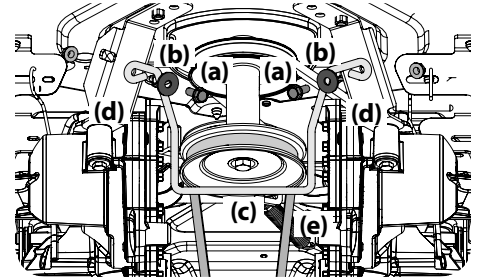
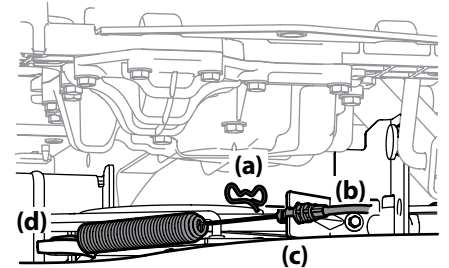

Figure 4-10
Figure 4-11
3. Remove the hex washer screw (a), flat washer (b) securing the belt keeper rod (c) to the transmission mount brackets (d) and remove the belt keeper rod (c). See Figure 4-10.
4. Remove the bow pin (a) that secures the PTO cable (b) to the bracket (c) on the deck, slide the PTO cable (b) out of the bracket (c) and unhook the spring from the idler bracket (d). See Figure 4-11.
5. Remove the 'V' belt (e) from the PTO pulley on manual PTO tractors on the bottom of the engine and skip ahead to Step 9. See Figure 4-10.
- On manual PTO tractors, reinstall the belt keeper rod (Refer to Figure 4-10) and the PTO cable (Refer to Figure 4-11).